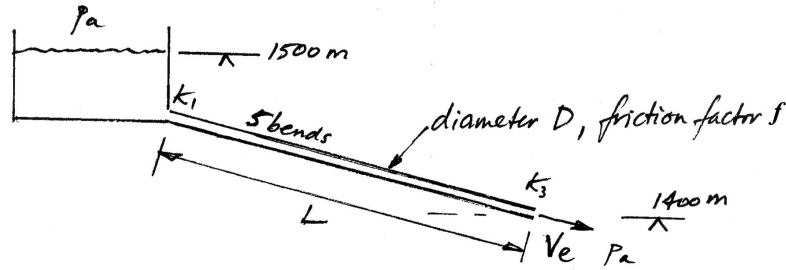

Figure P8.46
8.46 At a ski resort, water of density ρ flows through a pipe of diameter D and turbulent flow friction factor f for a distance L from a large reservoir with a free surface elevation of 1500 m to a snow making machine at an elevation of 1400 m , as shown in Figure P8.46. K_1 and K_2 are the loss coefficients for the entry and exit, respectively, and along the way the flow passes through 5 bends, each with a loss coefficient of K_3 .